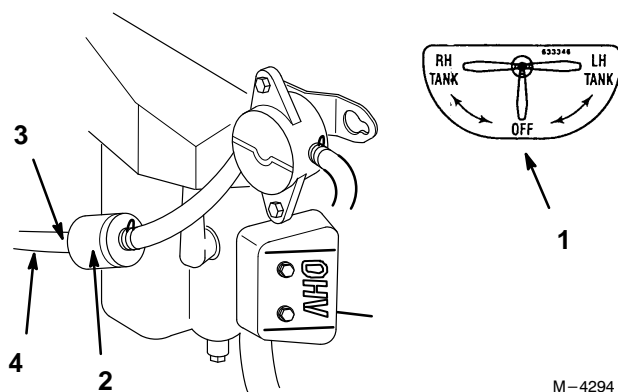

Figure 32
5. Install a new filter and move the hose clamps close to the filter (Fig. 32).
2. Close fuel shut-off valve (Fig. 32).
3. Loosen the hose clamp at the fuel filter and slide it up the fuel line away from the fuel filter (Fig. 32).
4. Pull the fuel line off fuel filter (Fig. 32).
5. Open fuel shut-off valve for left and right tanks. Allow gasoline to drain into a gas can or drain pan. (Fig. 32).
6. Install the fuel line onto the fuel filter. Slide the hose clamp close to the fuel filter to secure the fuel line (Fig. 32).